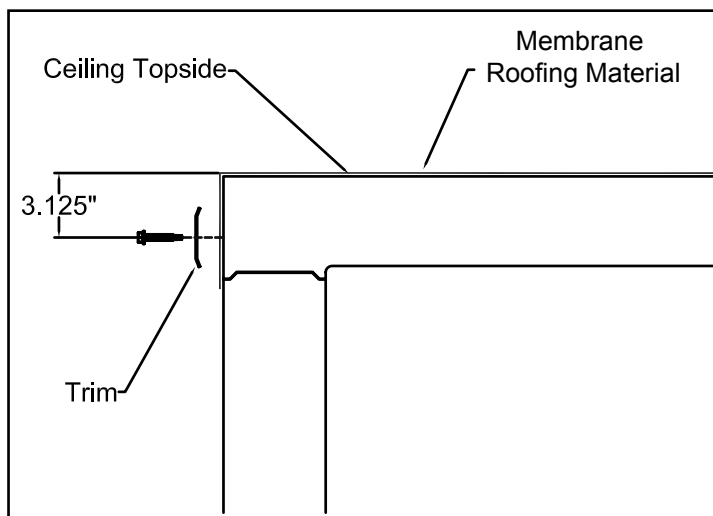

Figure 5
- Attach the trim and door hood by using the provided hex head sheet metal screws. All pieces should be held down 3-1/8" from the ceiling top as shown in Figure 5. Ensure the trim and membrane roof material cover the joint between the ceiling and wall panels. Note: The trim may have to be cut to fit.